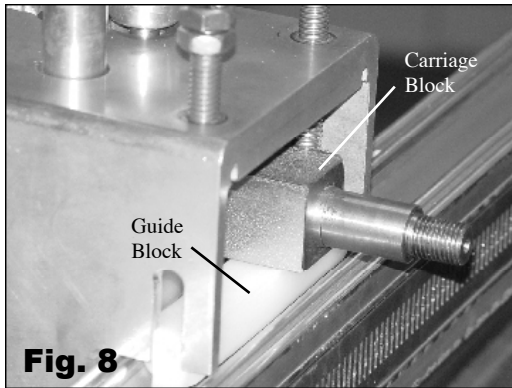

Fig. 8
Step 8: With the head positioned on the aluminum extrusion over the holes in the bottom tray, tighten the roller adjusting knob down all the way until closed. This will approximate the centering of the head vertically on the extrusion by clamping down on the guide blocks with the carriage blocks. See Fig. 8.
Step 8: Tighten the adjusting bolt jam nuts on both the top and bottom of the head. See Fig. 8.